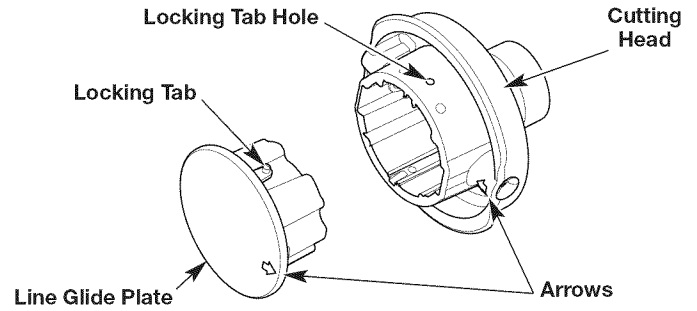

Fig. 16
2. Insert a small Phillips screwdriver into the locking tab hole and push the locking tab inward (Fig. 16). At the same time, pull the line glide plate out of the cutting head.
4. Align the arrow on the line glide plate with the arrow on the cutting head (Fig. 16).